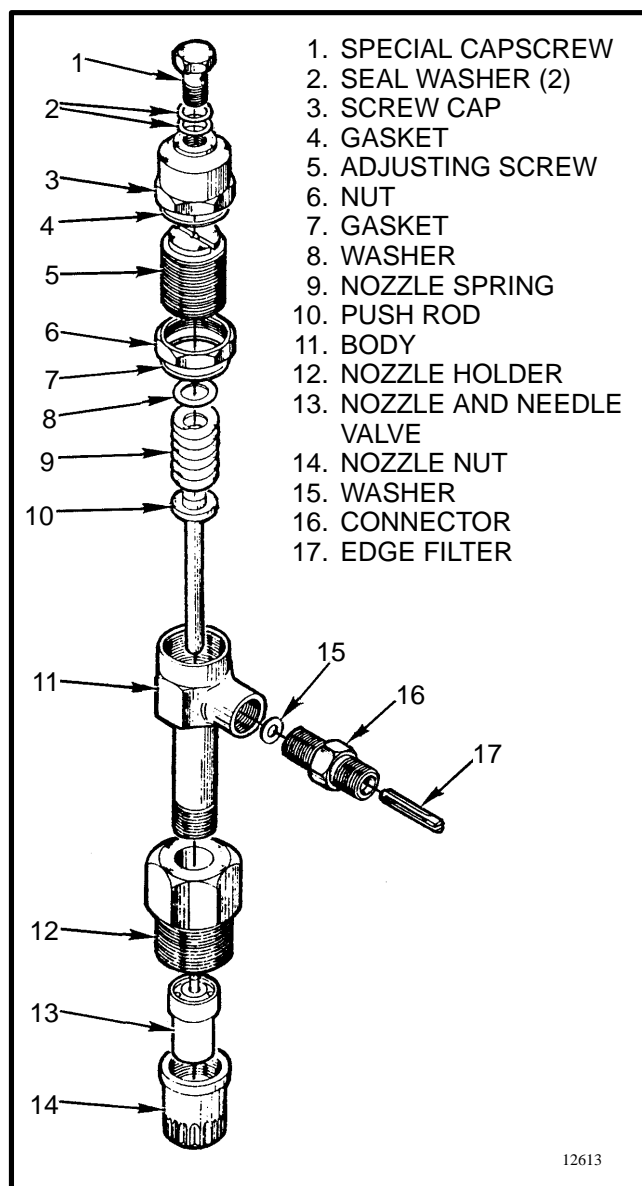

FIGURE 68. FUEL INJECTOR, DIESEL ENGINES
1. See FIGURE 68. Disconnect the fuel return line from the fuel injector. Remove the special capscrew (1) at the top of the fuel injector to disconnect the special “banjo” fitting for the fuel return line.
3. Use a wrench to turn the nozzle holder (12) and remove the fuel injector and the copper washer from the cylinder head.
2. Carefully check all parts for wear and damage. See FIGURE 68. The nozzle and needle valve (13) must be replaced if there is any wear or damage. Hold the nozzle and needle valve in a vertical position. Pull the needle valve upward approximately 1/3 of its length and release it. The needle must lower smoothly into its seat by its own weight. If the needle valve does not pass this test, the nozzle and needle valve (13) must be replaced.
6. See FIGURE 68. To change the pressure at which the nozzle operates, turn the adjustment screw (5).
1. See FIGURE 68. Use a new copper washer with the replacement fuel injector. Install the fuel injector and copper washer in the cylinder head.
3. Install new seal washers (2) and connect the fuel return line to the fuel injector.